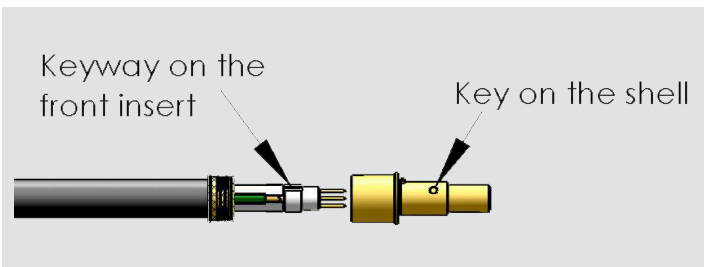
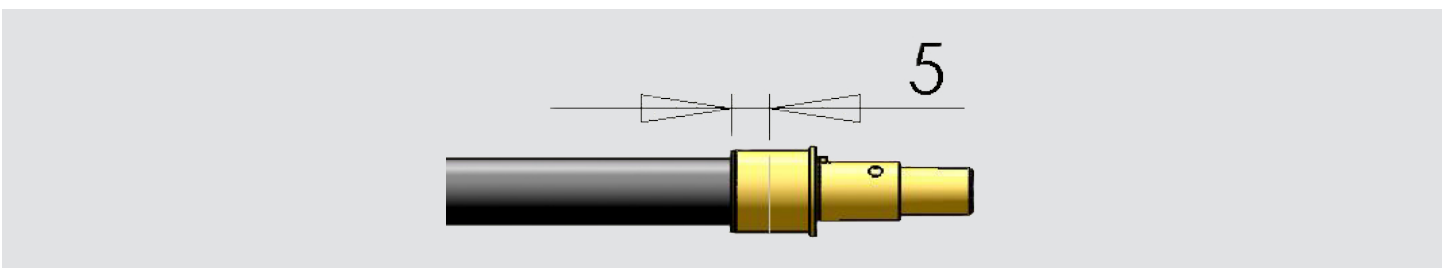

Figure 10
Figure 12
7. Insert the contacts into the shell (Figure 10) and crimp the shell in the 5mm area as shown in Figure 12.
Note: Align the key to keyway while installing. See Figure 10.